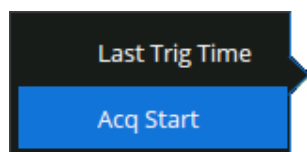

Figure 9.29 Start Hold-off On
- The window shown in figure 9.29 will appear.